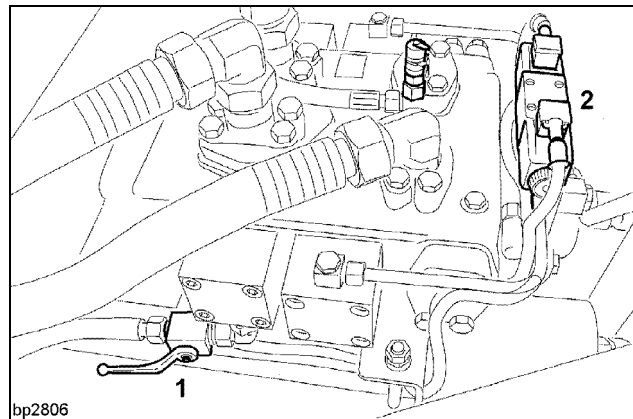

Fig.: 4
- Check whether the ball valve (1) (Fig.: 4) on the concrete pump control block is in the operating position.